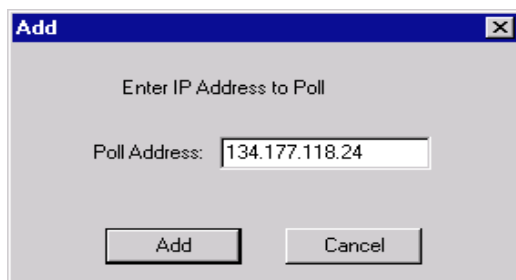

Figure 7-4. Add Polling Address Window
1. With the selected circuit still displayed in the Current Circuit box, click on **Add**; the Add Poll Address window, Figure 7-4, will appear.